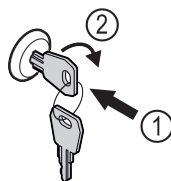

Fig. 161
- Insert the key. Fig. 161 (1)
- Turn the key clockwise by 90°. Fig. 161 (2)